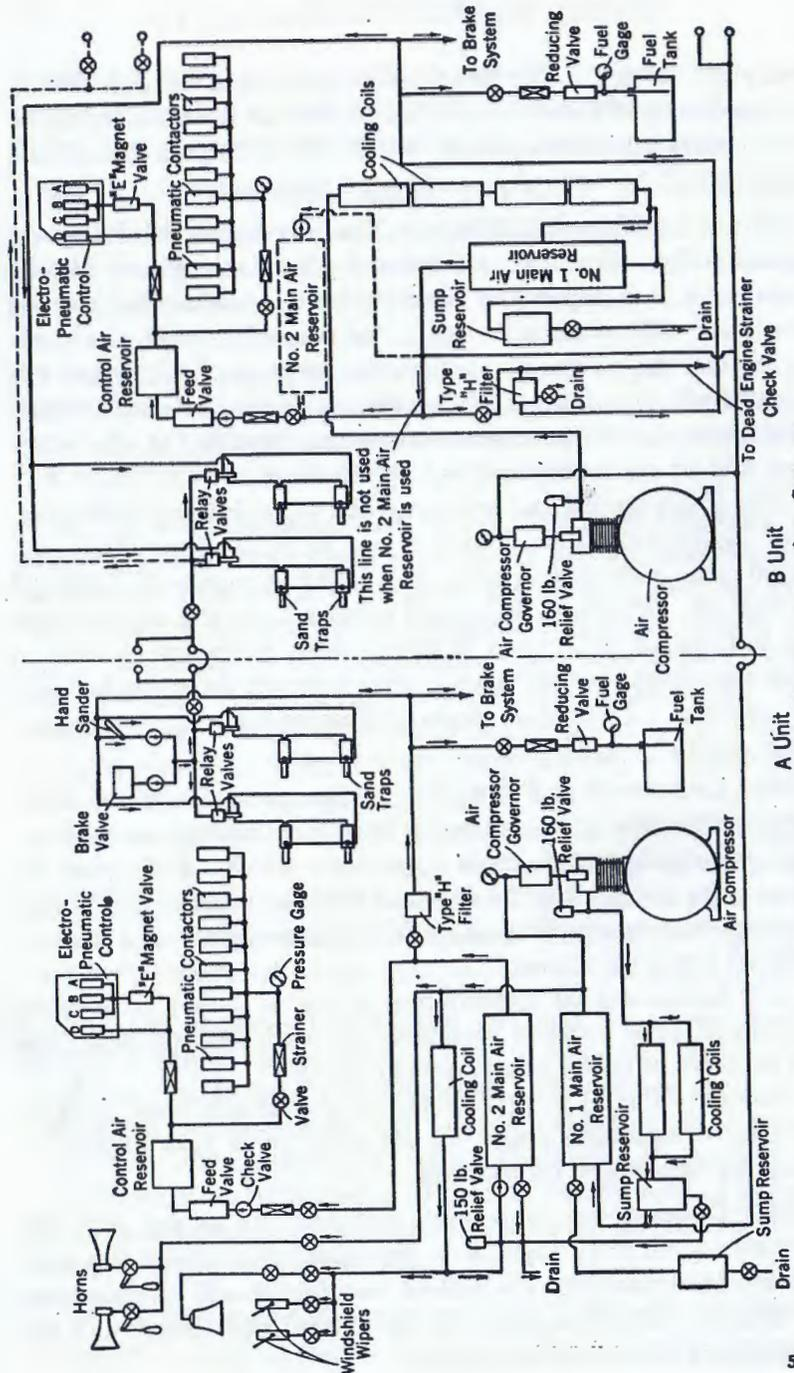

FIG. 15. SCHEMATIC DIAGRAM OF AIR SYSTEM
**104.** An air-piping diagram showing the air-operated devices and pipe connections is given in Fig. 15. Each power plant in a freight-locomotive section is equipped with a type WXE air compressor, which is connected to an extension of the engine crankshaft by a flexible coupling; hence, the compressor operates at engine speed and has a capacity of about 56 cu ft per minute at idling speed and 178 cu ft per minute at 800 rpm. The four compressors of a 4-unit freight locomotive, therefore, have a capacity of 712 cu ft per minute at maximum engine speed.